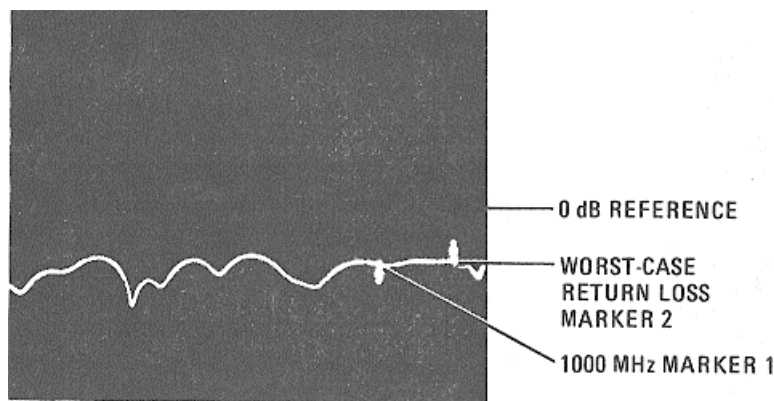

Figure 17. INCIDENT Port Return Loss (1000 to 1300 MHz)
- (1) Remove short and connect Dual Directional Coupler directly to 8502A INCIDENT port with RF INPUT, REFLECTED, and TEST ports terminated.
- (2) Move 8505A Frequency Control MARKER 2 control to worst-case, Return Loss between 1000 and 1300 MHz as indicated on CRT. (This is the point closest to calibration line right of 1000 MHz MARKER 1 as shown in Figure 17.)